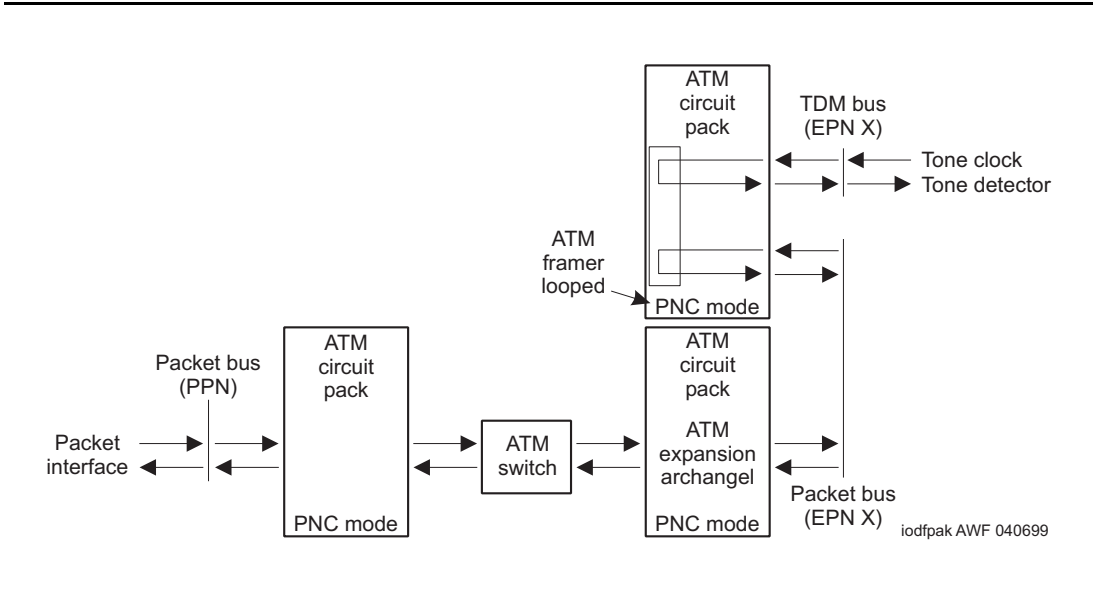

**Figure 3-6. ATM Board Framer Looparound Test (#1260)
- **Packet path:** the Packet Interface circuit pack sends packet data to the ATM framer interface, where it is mapped into ATM cells and then looped around internally. The cells are converted back to packet data after it has been looped. This portion of the test verifies correct operation of the ATM-EI's Packet bus interface and a large portion of the ATM-EI's packet paths. Figure 3-6 shows the packet switched signal path for the ATM circuit pack.